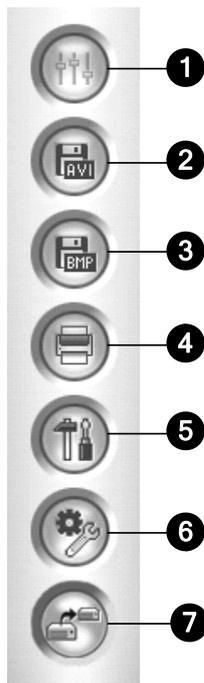

Figure 4-2 Function Panel
3. Click the **Save As AVI** button (No. 2, Figure 4-2). This dialog box appears. Alternatively, press **[S]** on the keyboard to call it up.